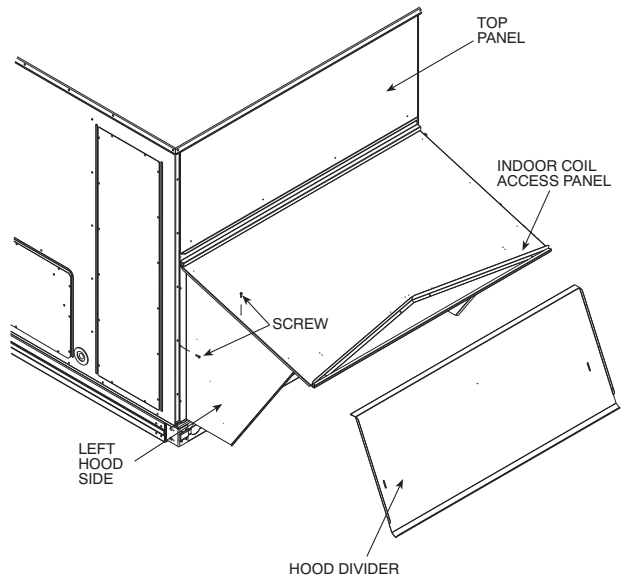

Fig. 14 — Economizer Hood Construction
- Swing out indoor coil access panel and insert the hood sides under the panel (hood top). *Be careful not to lift the panel too far as it might fall out.* Use the screws provided to attach the hood sides to the hood top. Use screws provided to attach the hood sides to the unit. See Fig. 14.
- Insert the hood divider between the hood sides. See Fig. 14 and 15. Secure hood divider with 3 screws on each hood side. The hood divider is also used as the bottom filter rack for the aluminum filter.